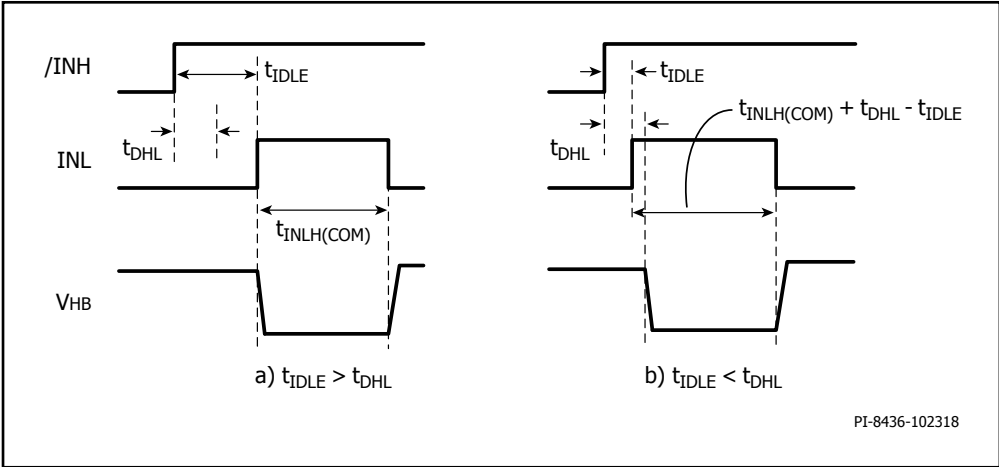

Figure 24. Minimum INL High Time Required for Device Internal High-Side Status Update a)  $t_{IDLE} > t_{DHL}$  b)  $t_{IDLE} < t_{DHL}$
- Assumes control input /INH was high for an idling period of tIDLE > tDHL. The required minimum INL high time for internal communication increases by tDHL - tIDLE if tIDLE < tDHL (refer to Figure 24).